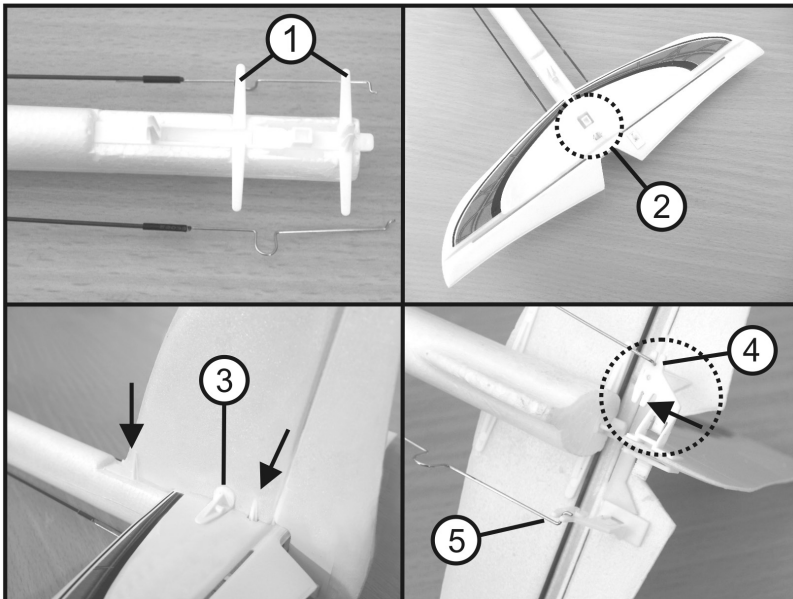

Figure 5
Carefully put the elevator (2) into the elevator holder (1), see figure 5. The pattern points up and the rudder linkage lever points down.
Carefully push the rudder into the intended holders (see figure 5, item 3 and arrows). The control unit connector (figure 5, item 3) must noticeably latch in the holder of the elevator (figure 5, item 1).
Install the rods at the rudder (figure 5, item 4) or the elevator (figure 5, item 5). Here, you need to carefully attach each linkage wire to the rudder horns of the rudder and elevator from the outside with long-nosed pliers. For practiced pilots who desire a slightly larger deflection of the rudder or elevator, the linkage rods can be connected on the inside (see arrow in item 4).